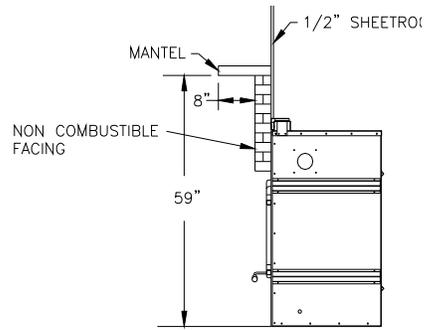

FIGURE 15: NON-COMBUSTIBLE FACING
2. Non-combustible materials such as brick, stone or ceramic tile may project in front of and onto the steel front façade of the Inglebrook Fireplace. Figure 15 shows the proper installation of non-combustible material with reference to overlapping the fireplace front façade.